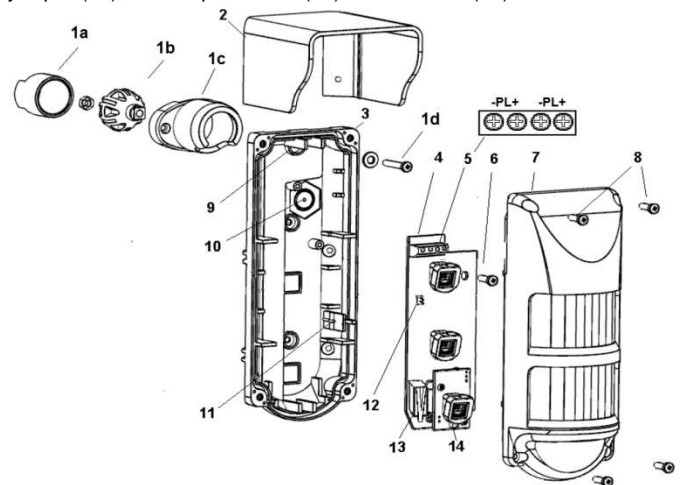

Figure 1. Structure of the Detector
5.1 The detector (see Figure 1) consists of a base (3), a PC board (4), and a cover (7). Also the swivel mount bracket (1) and weather protecting screen hood (2) are supplied with the detector.